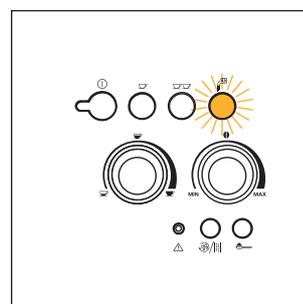

Fig.22
- Place an empty recipient under the cappuccino maker (fig. 3). Turn the steam knob a half turn anticlockwise as far as it will go (the light flashes fig. 22). Run off the steam mixed with water for a few seconds until only steam is given off.